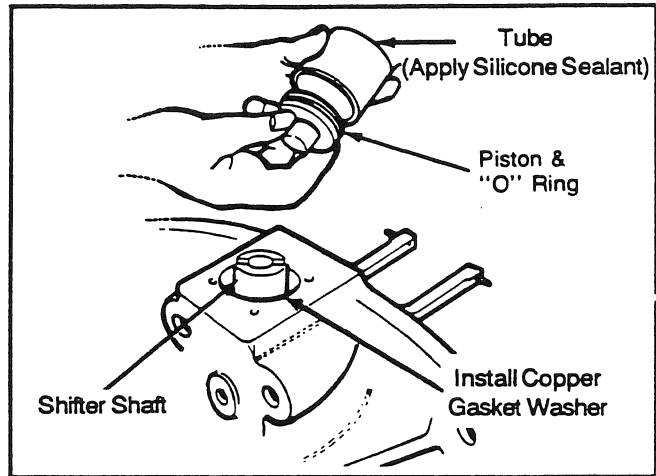
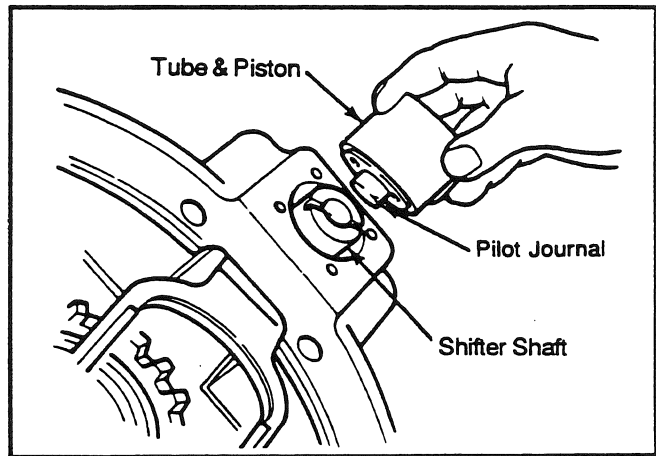

Fig. 91
Fig. 92
3. Lubricate the piston O ring with system oil. Install the O ring into its groove on the piston. Apply a bead of silicone sealant P/N 32338 onto the washer end of the tube. Install the piston into the tube (see Fig. 91). Install the washer and tube into the housing bore. Make sure the pilot journal on the piston engages in its bore on the shifter shaft (see Fig. 92).